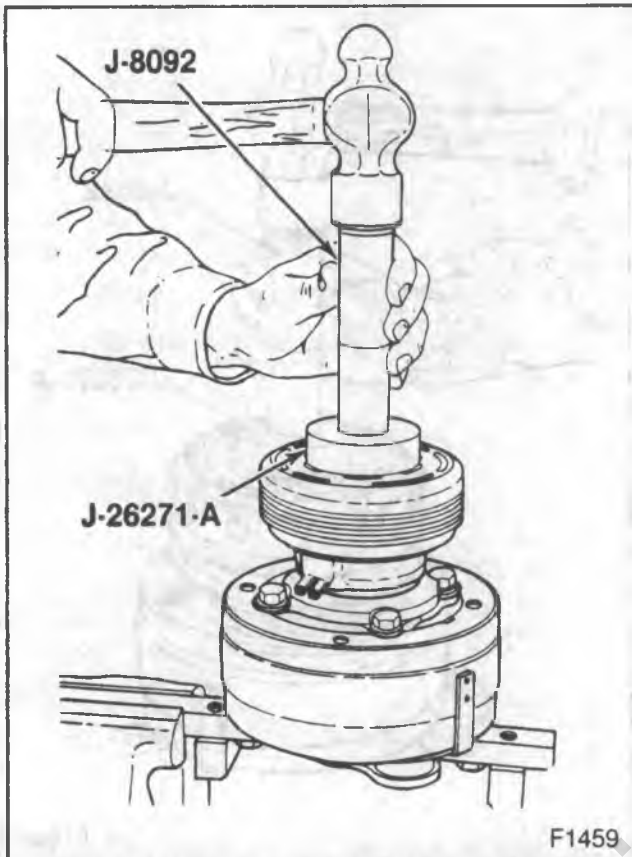

Figure 102—Installing the Rotor and Bearing (Multi-Rib Type)
2. Rotor (5) and bearing (6) assembly to the compressor with J-26271-A and J 8092 (figure 102).
3. Retainer ring (4) with J 6083.
4. Clutch drive hub (3).